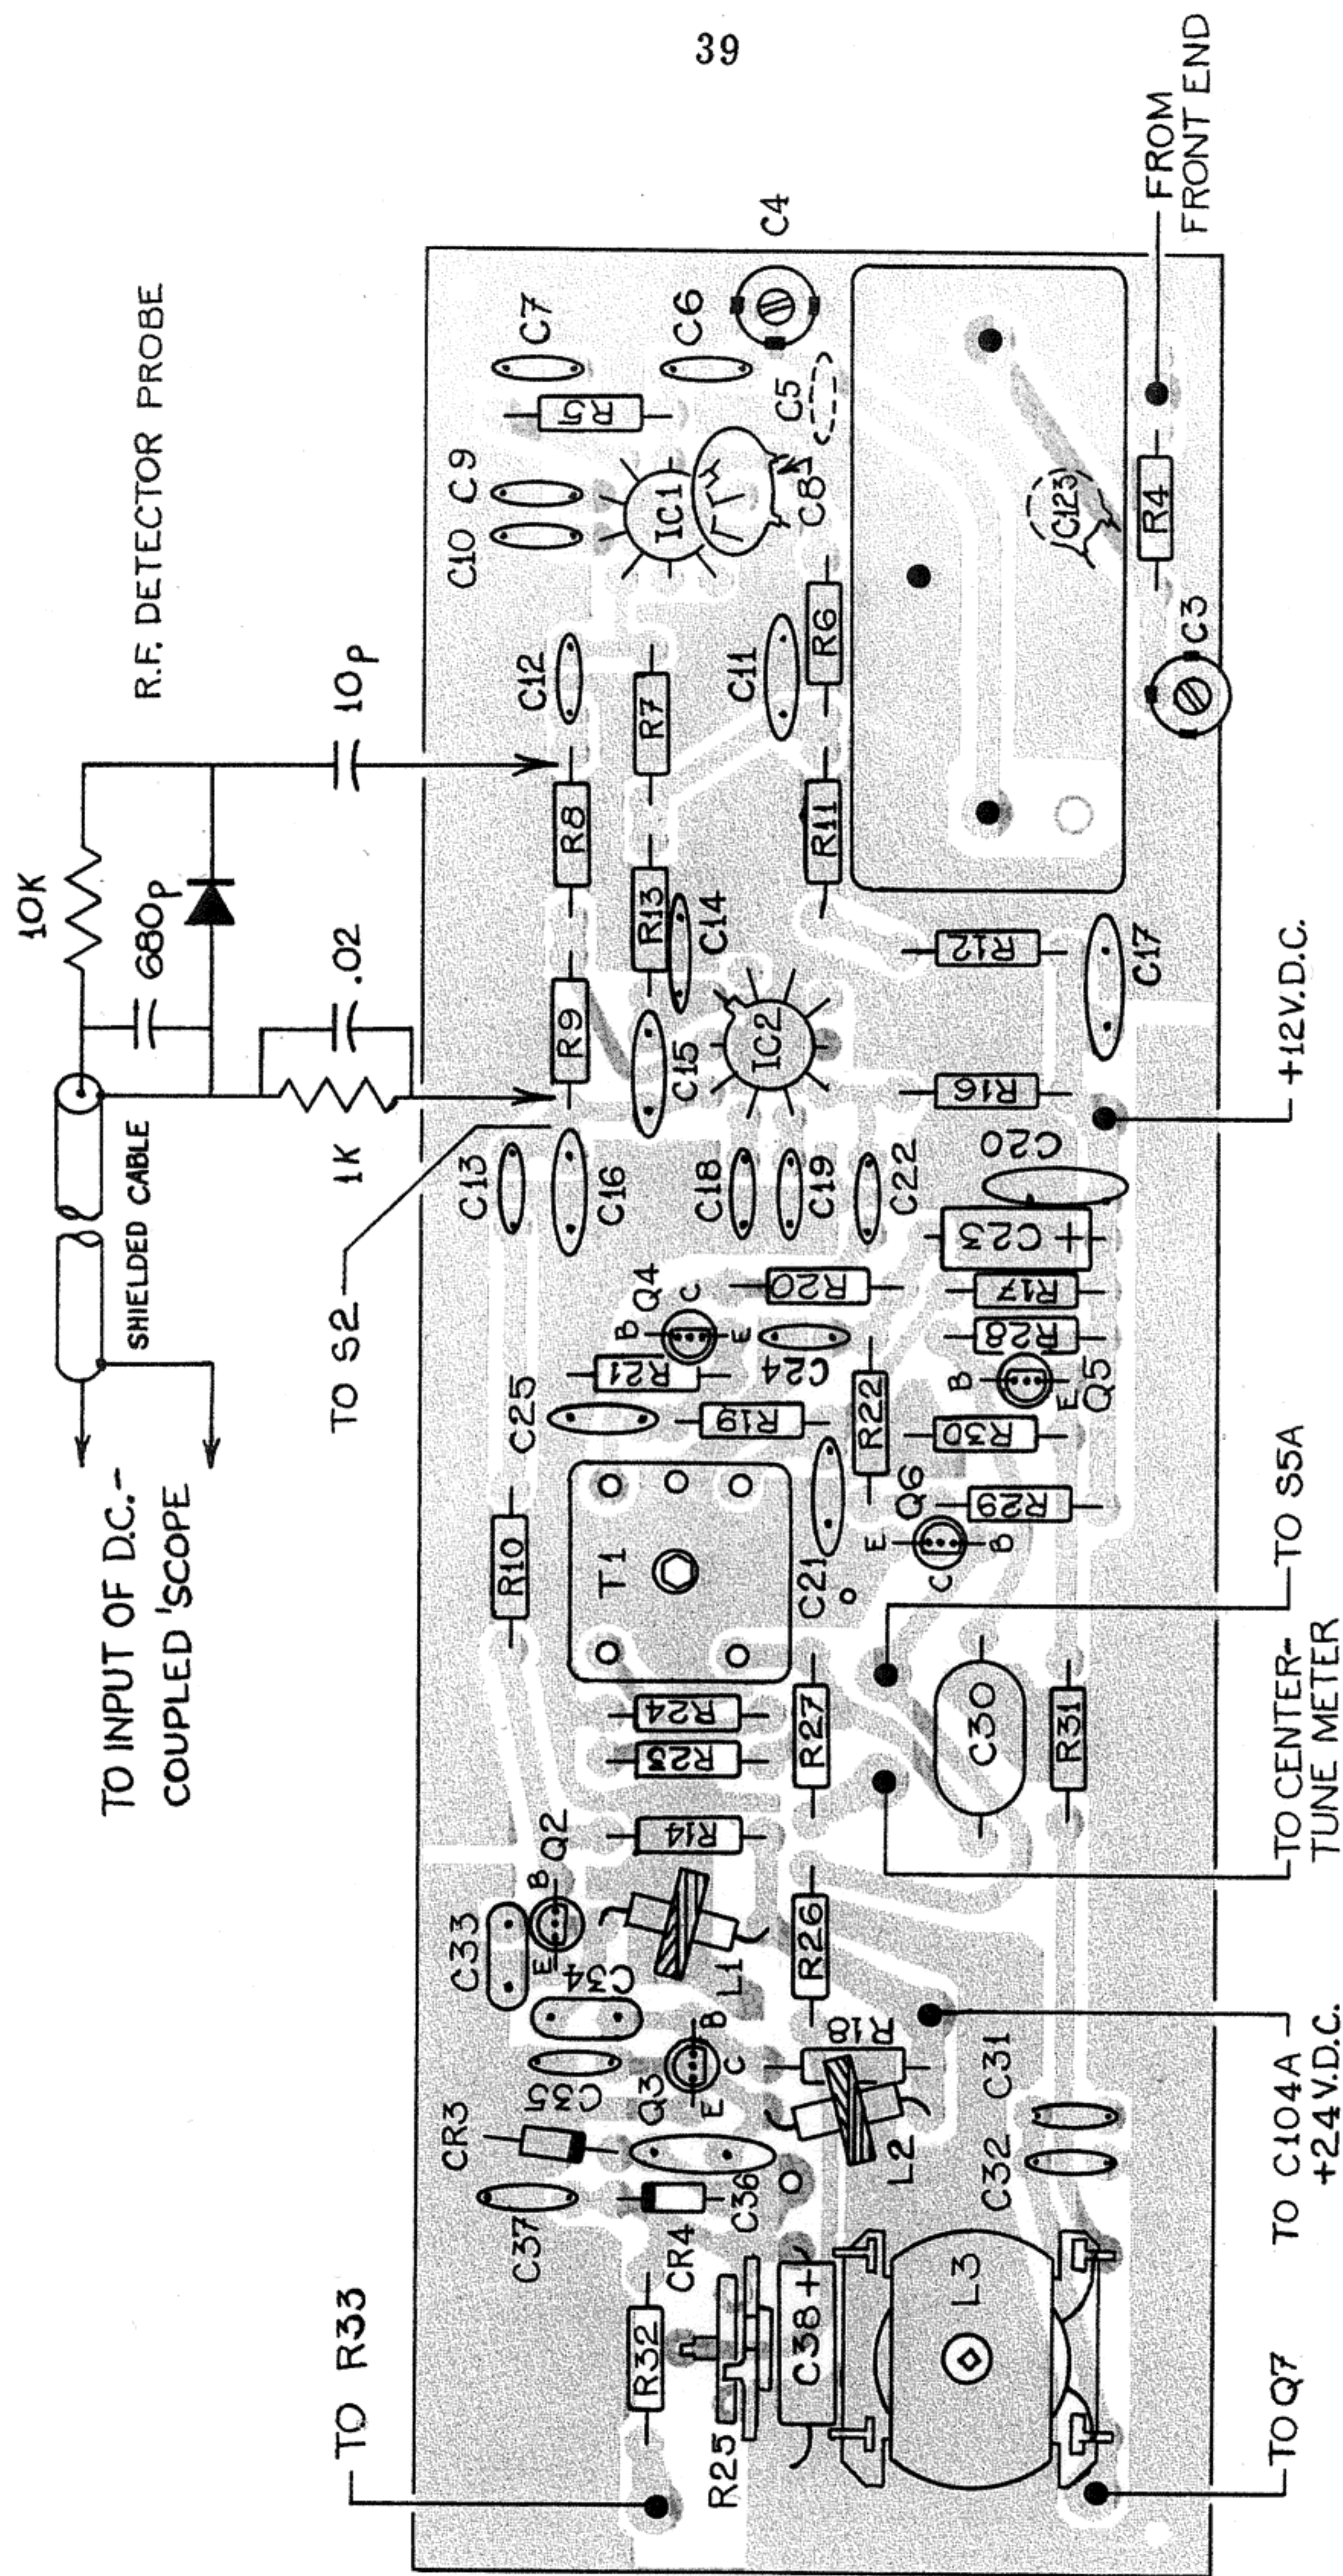

FIGURE 14
b. Multiplex Board: The multiplex filters in the receiver are RC 38 kHz notch types, instead of the LC low-pass types used in the tuner, and have no emitter-follower buffers after them. (See Figure 14.) The resulting higher source impedance causes early production receivers to be easily loaded down by most tape recorder inputs. Later receivers are equipped with tape output boards having low output impedance. This board also provides switchable de-emphasis for universal receivers. (See Figure 15.)